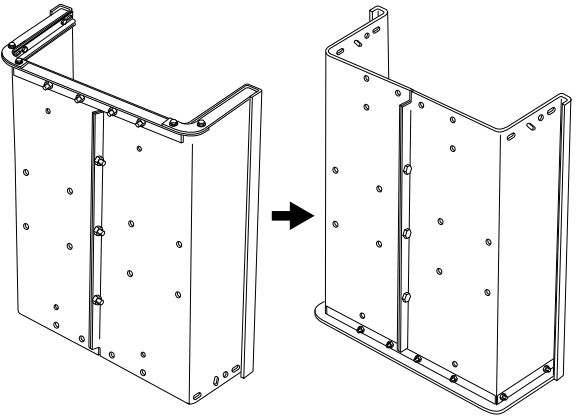

Figure 7
STEP 8 (SEE FIGURE 7): Position the cart bed with the rear of the cart facing towards the ground as shown in figure 7.